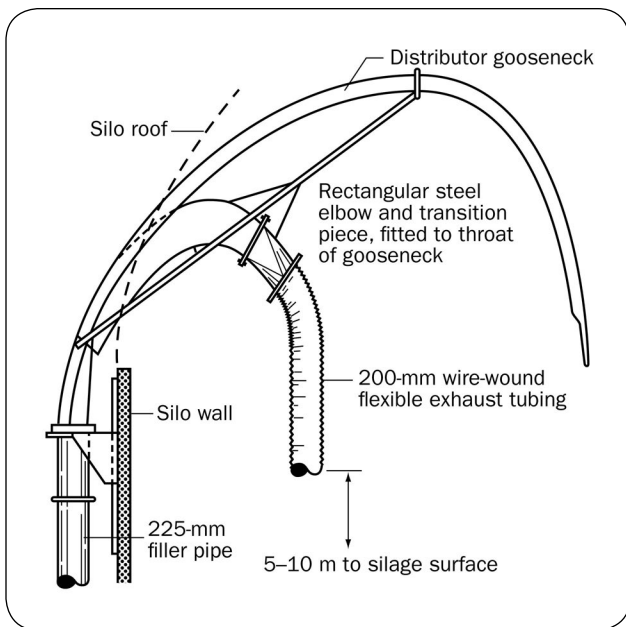

Figure 4. Suggested ventilation adapter for rotary distributors.
- A top unloader can ventilate a silo effectively. However, if it becomes necessary to service a defective unloader, assume that gases are present. To expel gases before entering, run the forage blower with the chute doors closed and the roof vent open. If the head space is greater than 5 m (15 ft), attach a tube adapter to the blower pipe (Figures 4 and 5). For a 7.2-m (24-ft) diameter silo with 5–10 m (15–30 ft) of head space, let the blower run for 30 min. For larger diameter silos or silos with a deeper head space, increase the ventilation time. Leave the forage blower running while in the silo.